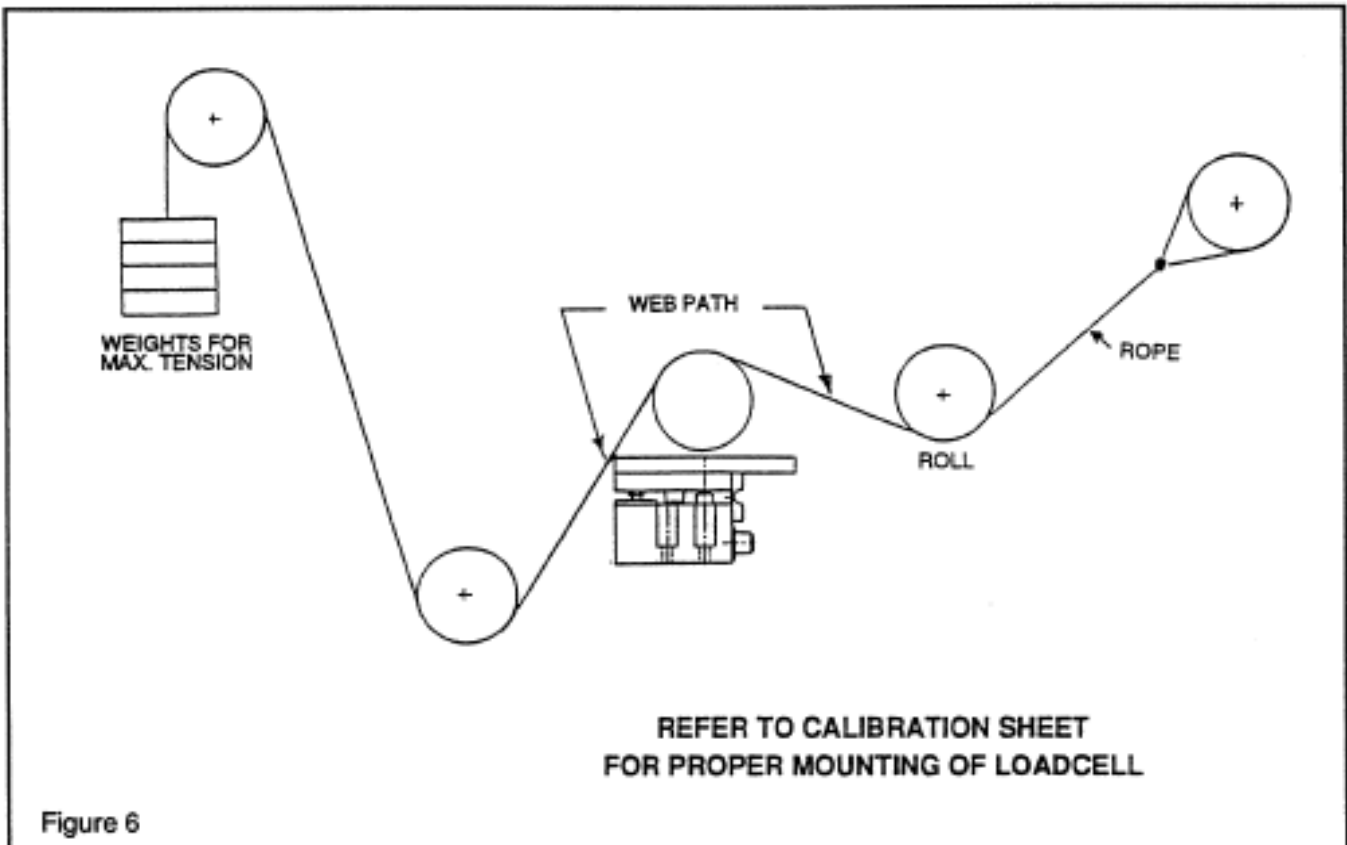

Figure 6
2. With one end of the rope secured, hang a known weight, equally over the roll so that the total tension is equal to the maximum strip tension specified on the calibration sheet, at the other end. (See Figure 6)